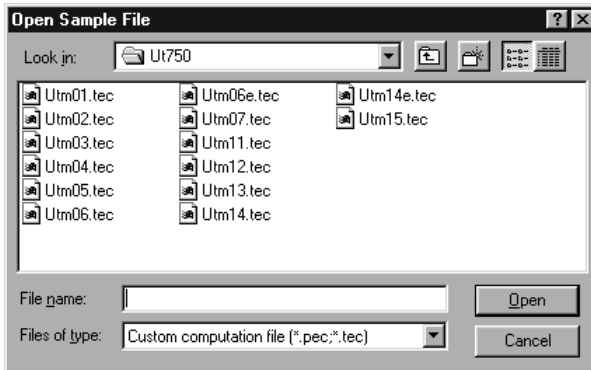

Figure 5.1.5 [Open Sample File] Dialog Box
- (2) If you are configuring a custom display using a sample file, choose <Open Sample File>. Click the <Open Sample File> option button, then the <OK> button. The [Open Sample File] dialog box (Figure 5.1.5) appears.
In the [New/Modification] dialog box, click the “Open Sample File” option button and the <Open> button. The [Open Sample file] dialog box (Figure 5.1.5) appears.